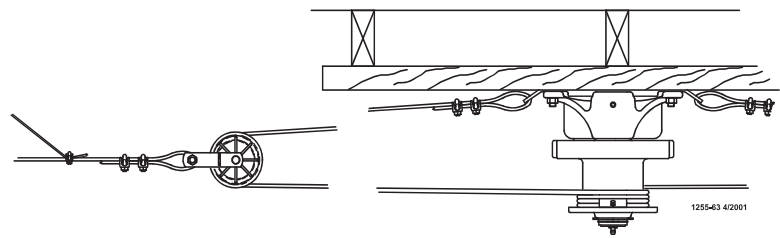

Figure 10. Double back arrangement for feed lines over 350' [107 m]
3. Extend the 3/16" [5 mm] Main Winch Cable the full length of the feeder line. Attach the cable temporarily to the ceiling with nails, staples, or some type of fasteners. **Figure 10.** shows a double back arrangement for feed lines over 350' [107 m].